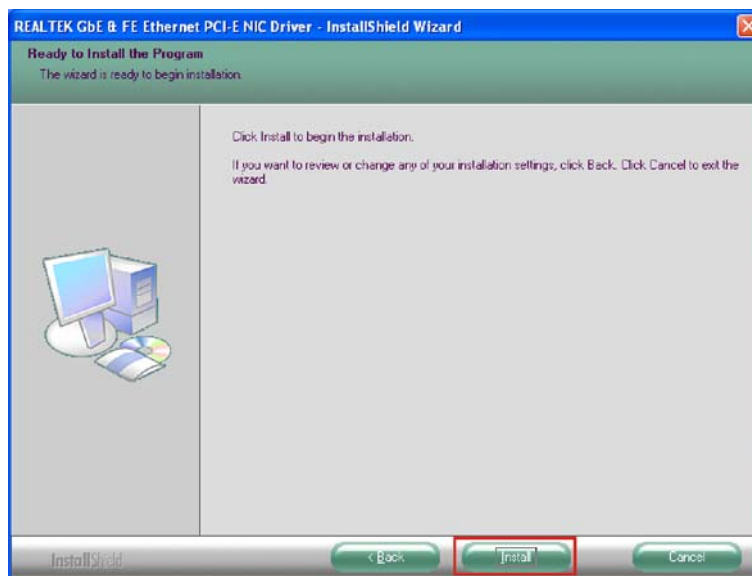

Figure 6-17: LAN Driver Welcome Screen
Step 5: The **Ready to Install** screen in **Figure 6-17** appears.